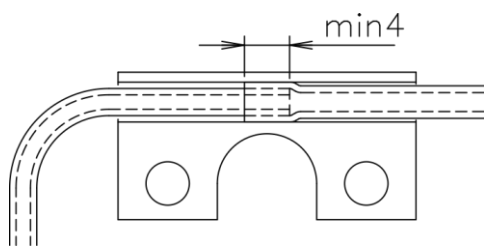

Fig.1
- (3) Please set the nozzle where the tube is inserted into the nozzle as shown in Figure 1 to come to the center of the Fig.No.102 holder.